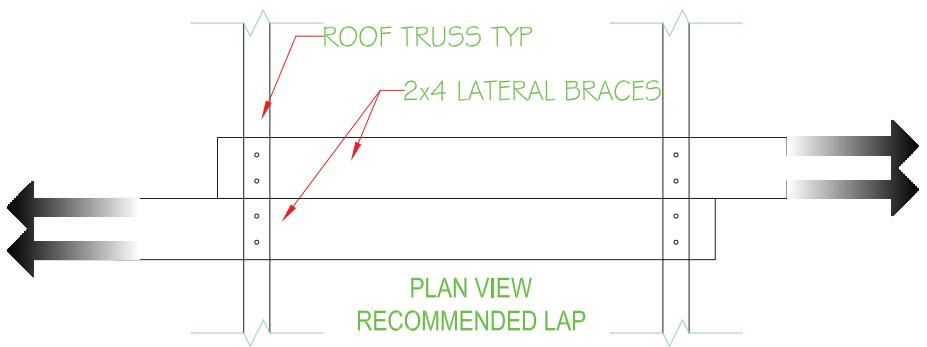

Figure 1. Overlaps of 28" or 52" min for 2' and 4' on-center spacing respectively.
- 1.) Overlaps of 28" or 52" min for 2' and 4' on-center spacing respectively: **4 nails \* 106#/nail = 424#** (See Figure 1.)